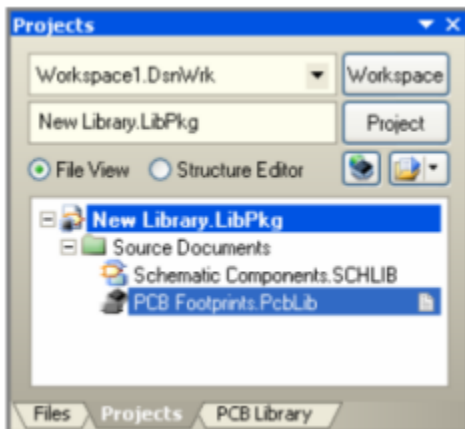

Figure 38. Library package after adding the footprint library
2. Rename the new PCB library document to PCB Footprints.PcbLib, for example, by selecting **File » Save As**. The new PCB footprint library should be part of your library package, as shown in Figure 38.